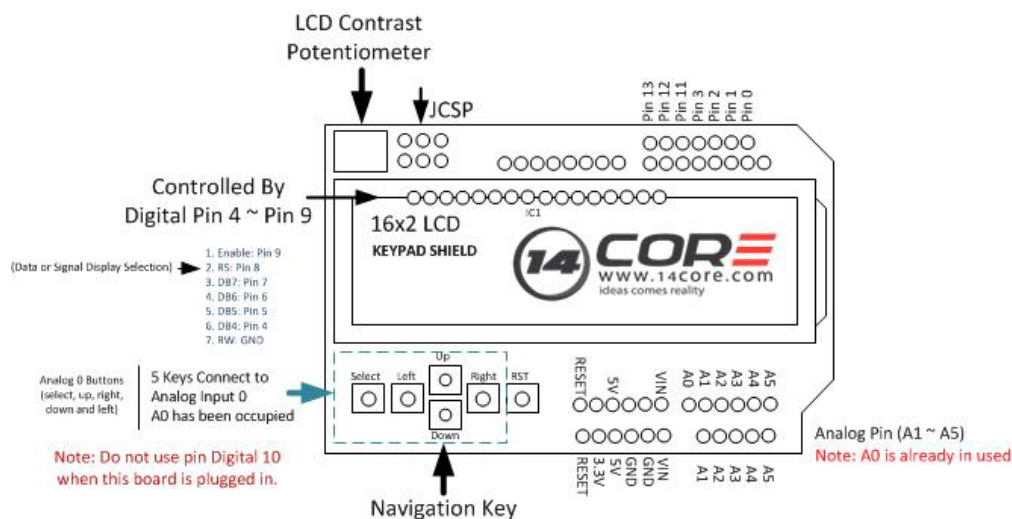

Figure 2. Pinout of the Arduino LCD shield used for the Morse Machine.
- LCD display module ("shield") which plugs directly into the Arduino, of the type shown in Figures 2 and 4. For more information, see for example here.
The LCD module uses several of the I/O pins of the Arduino for driving the display, light and buttons. The rest of the Arduino pins are routed to pads at the edges of the LCD module, as shown in Figure 2. From there, it is easy to connect wires to the rest of the circuit. The version of the code posted here is configured for the connections shown in the schematic. There are a few different variants of the LCD "shield" module on the market, so some care is needed to get the connections right. The K3NG code can be modified according to the choice of I/O ports. Avoid Arduino ports 0 and 1, which are used for communication with the PC.